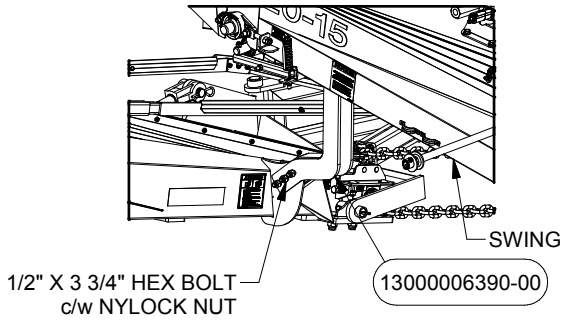

FIGURE 3
3. Attach the Conveyor 20-15 Gooseneck to the Jump Connection using Hex Bolt c/w Nylock Nut. Fasteners can be found in Bolt Bag PN# 6783. Parts and Bolt Bag can be found in Frame Hardware Box PN# 7251 (see Figure 3).